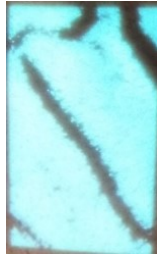
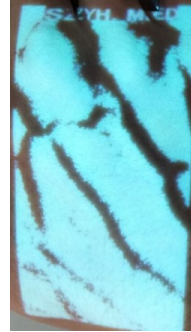

Figure 4.7 Projection size
Figure 4.8 Projection size
- ✧ Press the “Projection size” key, and the user can switch to the small size mode, as shown in Figure 4.7. Press the “Projection size” key, and the user can switch to the vertical size mode, as shown in Figure 4.8. Press the key again to restore the basic mode.